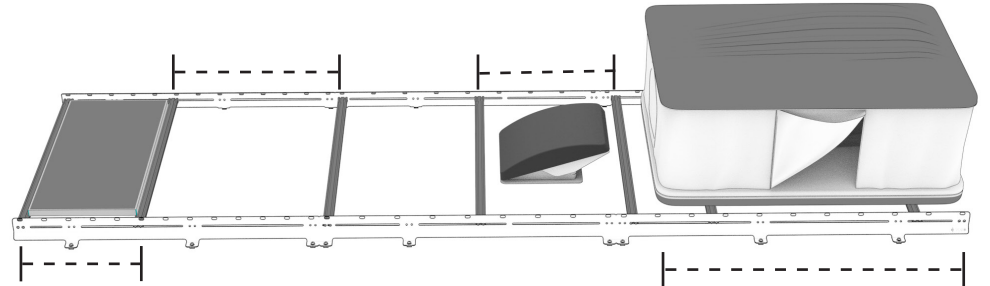

FIG 6
3.1 Layout Crossbar Locations: Position the crossbars in your desired locations, loosely threading in the **1/4-20" Flange Head Screws** to hold in place (**FIG 6**).